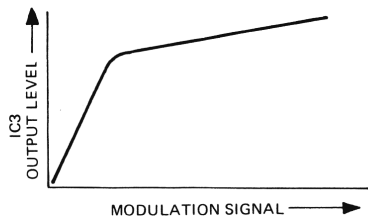

Fig. 2 Audio Limiter Characteristics
by the AF AMP(TR20) through the low pass filter(L10, L11) and TX(AM) switching(TR22). The output of IC4 is subjected to impedance matching by the output transformer(T1) and supplied to the TX FINAL and DRIVER stage. This modulation signal is detected at the secondary of T1 by the bias switching diode(D23) and makes collector current flow in TR23, AMC transistor. At this time, a voltage drop is developed across the resistor(R104) which causes collector voltage to decrease and forward bias current of both D21 and D22 is reduced. In other words, the output voltage of IC3 is clipped for both positive and negative. However, the clipped waveform as shown in Fig. 2-D causes the band-width to increase, thus a low pass filter(L10, L11), which has the characteristics as shown in Fig. 3, is used.